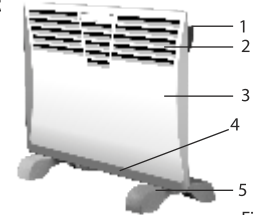

Fig. 3
4. DESCRIPTION OF THE CONVECTOR (FIG. 3)